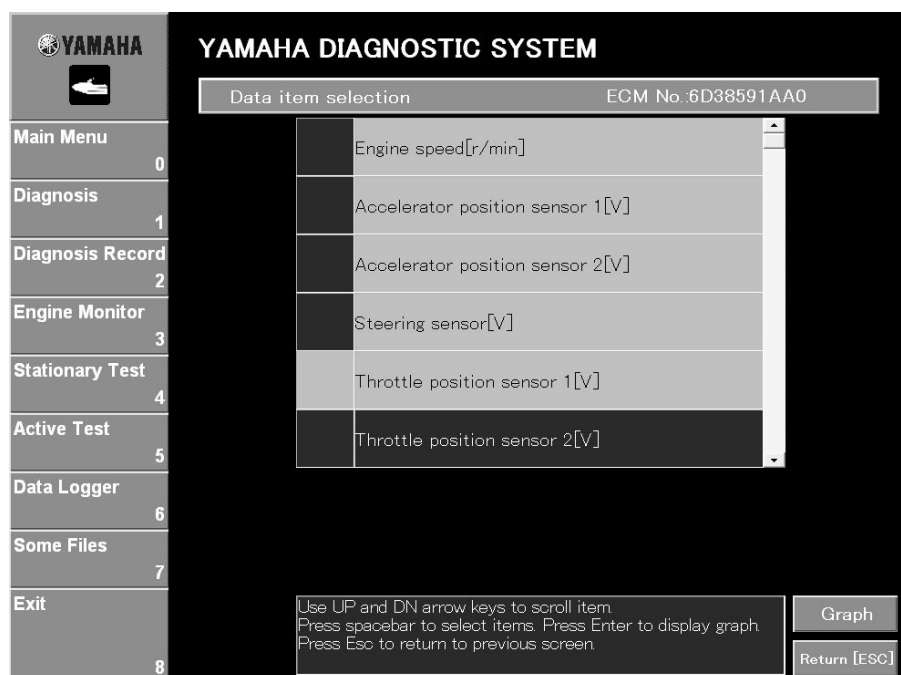

Fig. 111
5. Click the **Graph** button. (See fig. 111.) The window is displayed. For information on the buttons that appear below the graph, refer to “Graph window controls (keys and buttons)”.